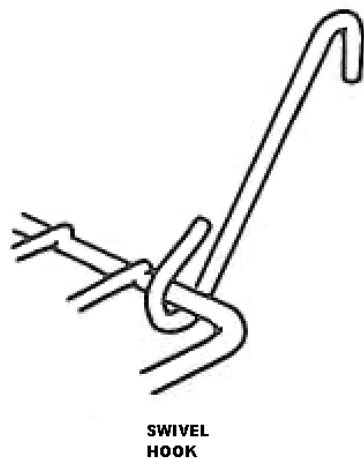

Figure 3
2. Space shelves for desired product heights. Pull swivel hooks (Figure 3) attached to rear of dispensers into slots on rear posts and drop rear of dispenser down. For best results with gravity feed dispenser, position dispenser at 15 degree angle with back end of dispenser installed approximately four slots higher than front of shelf. Refer to Figure 4.